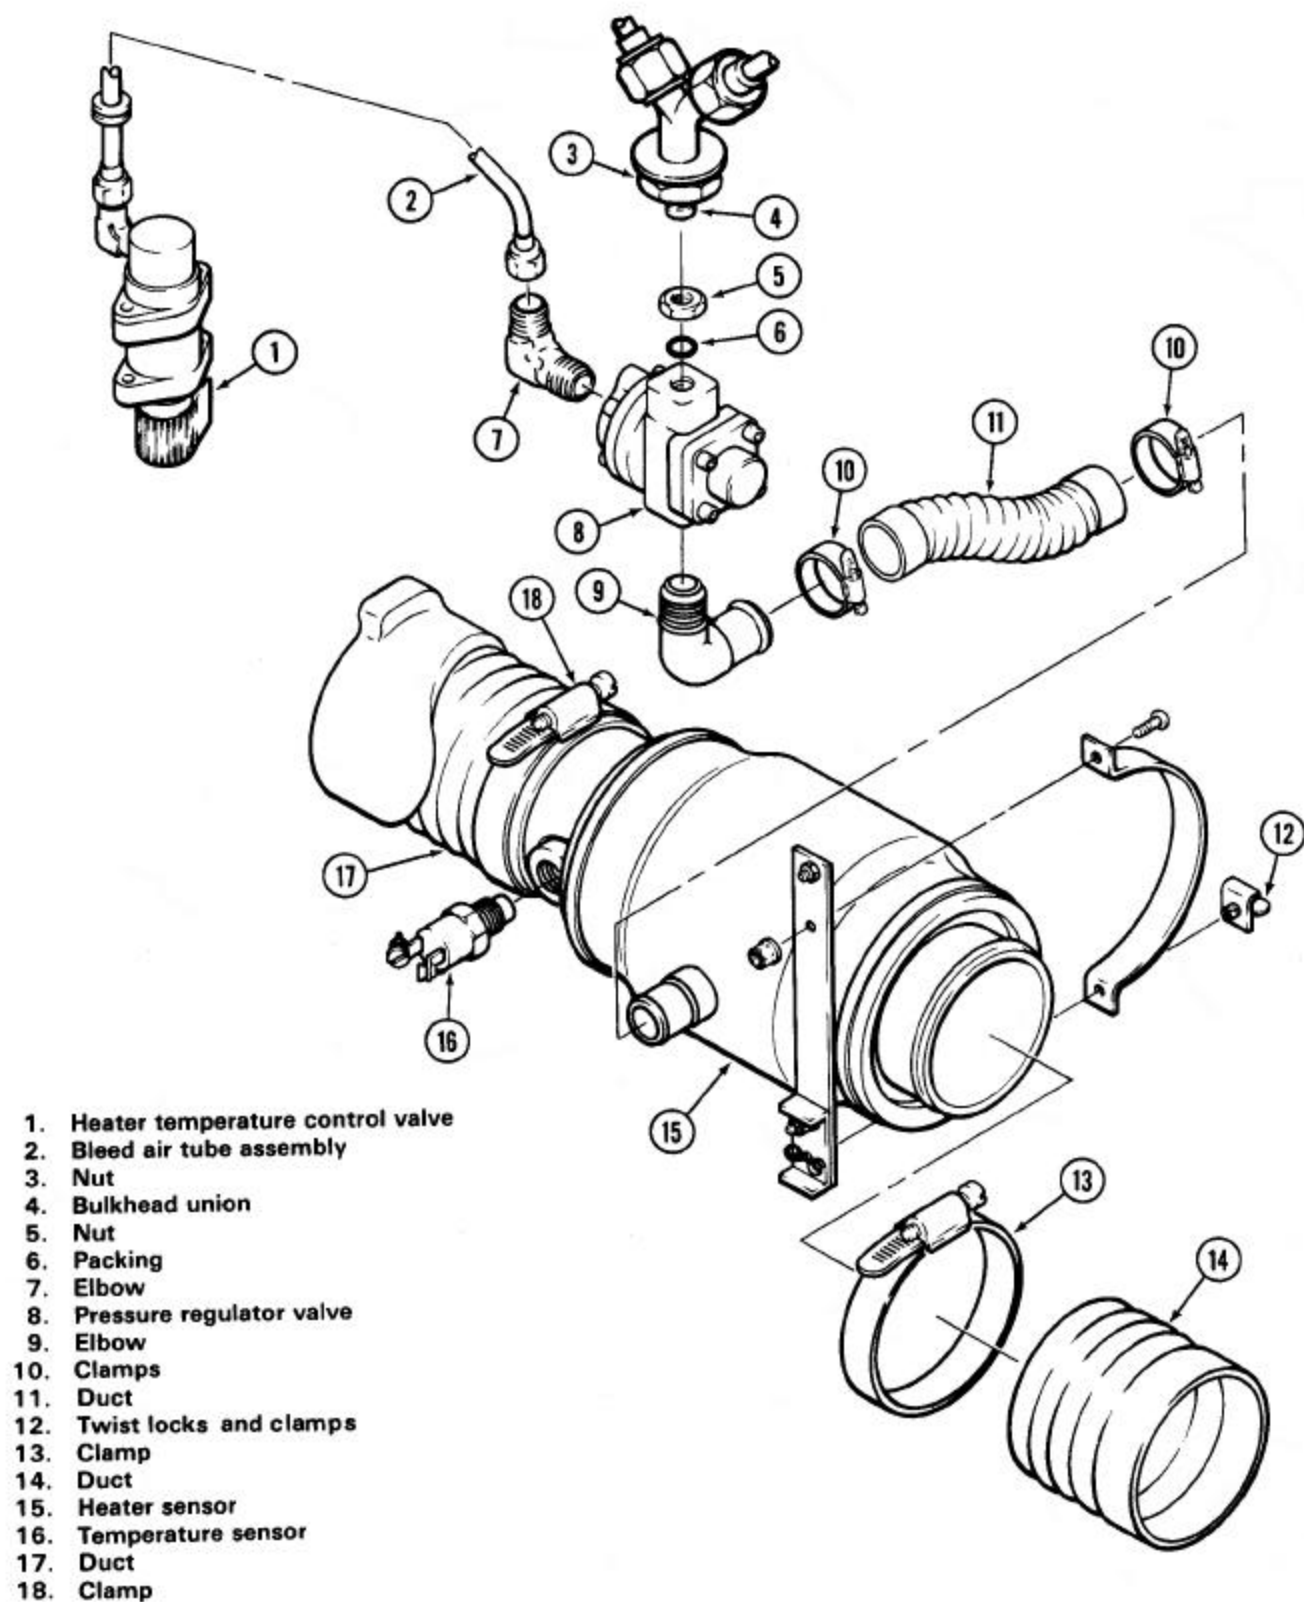

Figure 21-14. Bleed Air Heater Installation
2. Disconnect electrical connectors from temperature sensor (16, Figure 21-14).
4. Disconnect duct (11) by removing lower clamp (10).
5. Open twist locks (12) to allow clamps to open. Remove heater silencer (15).
1. Disconnect upper end of duct (11, Figure 21-14) by loosening upper clamp (10).
2. Disconnect bleed air tube assembly (2) at elbow (7).
3. Loosen nut (5) and unscrew pressure regulator valve (8). Discard packing (6).
1. If installing replacement valve, install elbows (7 and 9, Figure 21-14) in pressure regulator valve (8).
2. Install new packing (6) on union (4) below nut (5).
3. Install pressure regulator valve (8) on bulkhead union (4) and tighten nut (5).
4. Connect and tighten tube assembly (2).
5. Install duct (11) on elbow (9) and secure with upper clamp (10).